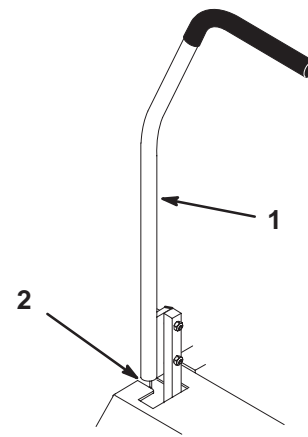

Figure 58
3. Check where lever is relative to notch in console (should be centered allowing lever to pivot outward to the neutral lock position) (Fig. 58).